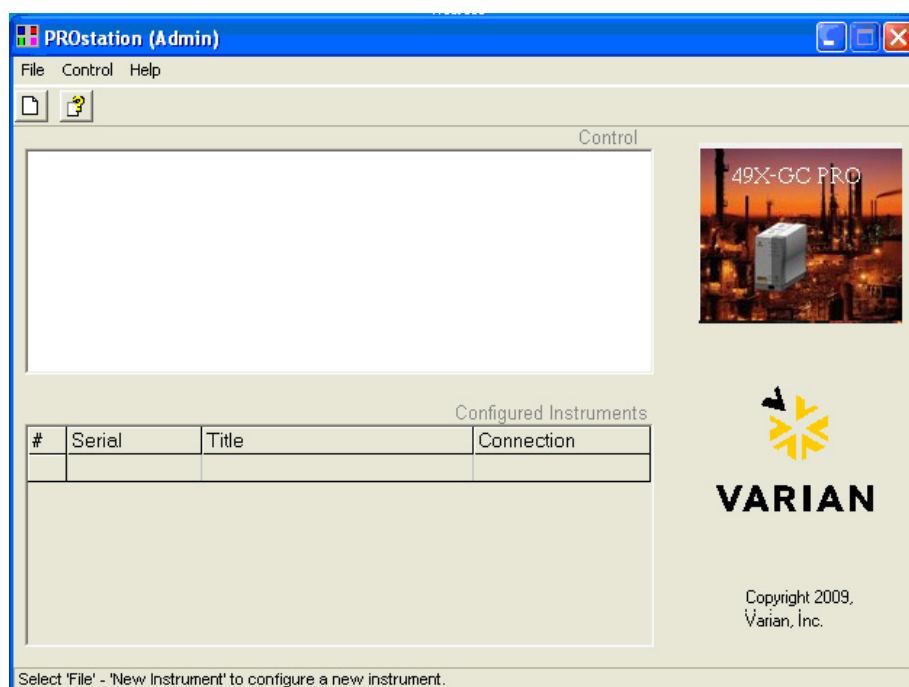

Figure 16: Main window PROstation
- Now the user must log in with new Password or press “OK” button when “No Password” option is enabled. PROstation opens with the main screen as shown in Figure 16.